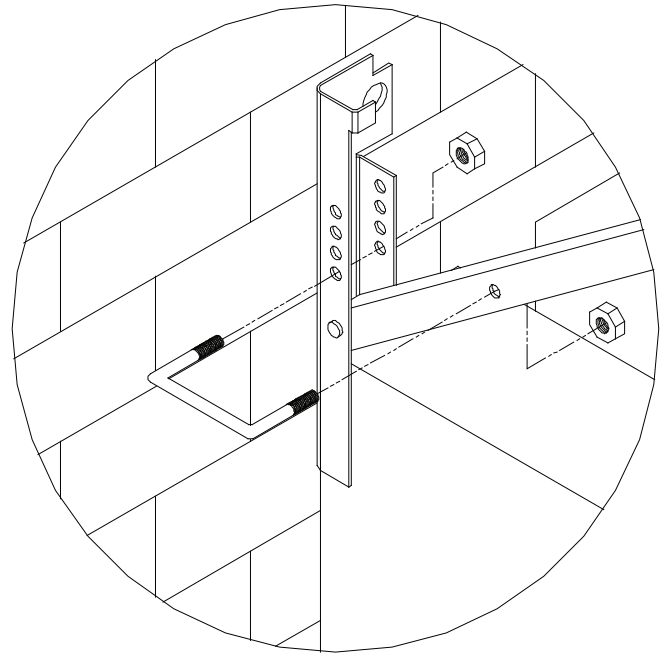

FIGURE 3
5. At this point, the header mounting brackets can be drilled or you can wait until after Step 7. To do it now, make sure the distance between mounting brackets is correct for the unit to be installed. (Reference 5656-0007, Figure 3) Drill appropriate hole for the style of anchor to be used, into the center of the 1" diameter hole on the header mounting bracket.
7. While still on the side you just finished, slide one end of the installation safety "U" bolt 1/3 the way into the hole located on the side arm of the top frame assembly. Lift the front bar assembly until the "U" bolt aligns with the desired hole on the header mounting bracket. (See Figure 3) (Note: The correct hole is when the "U" bolt can be installed and leave an ample amount of slack in the cover in order to get backer board into the header mounting bracket.) Install the "U" bolt all the way through the holes. Attach the supplied nuts to the "U" bolt threads. For normal installations, the nuts just can be hand tightened